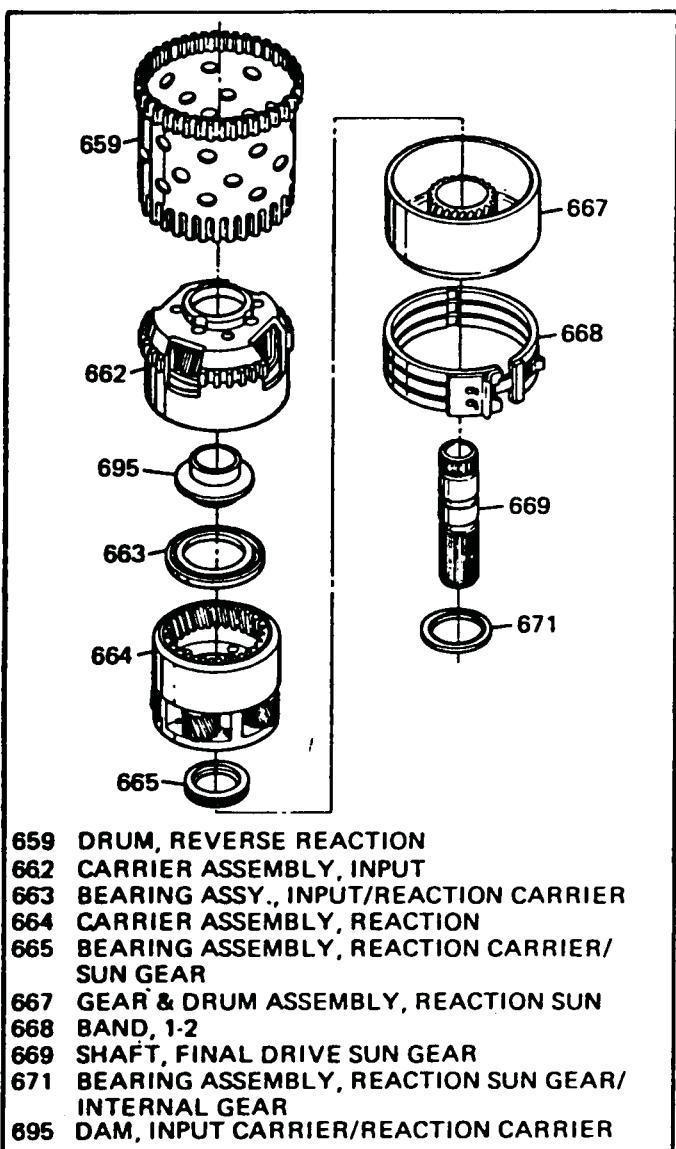

Figure 69
5. Install bearing assembly (663) in input carrier, with inside race against the carrier, and retain with petrolatum.
7. Refer to Figure 69.